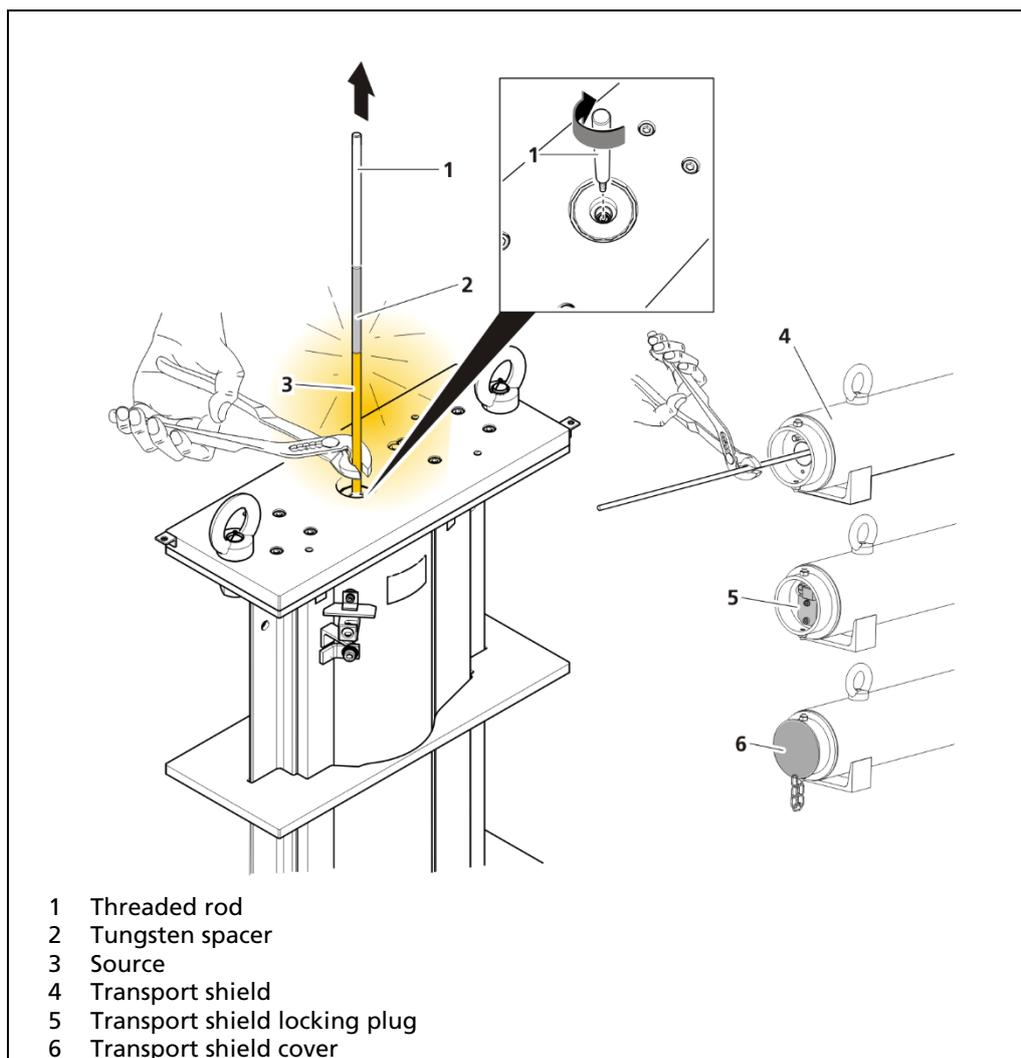
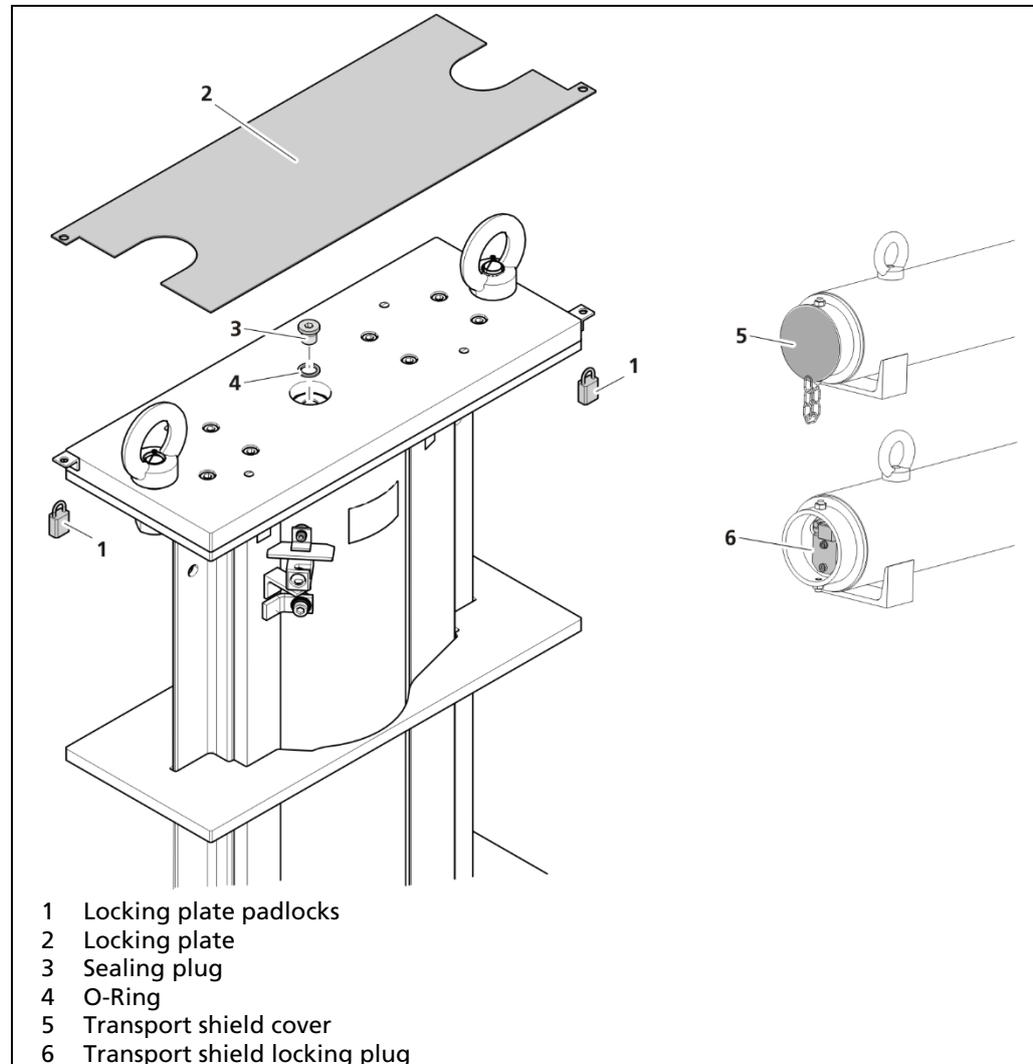

Fig. 13 Remove source out of shield
Fig. 14 Prepare the installation
1. Prepare the transport shield (Fig. 13, item 4) for the source, remove the cover (Fig. 13, item 6) and the locking plug (Fig. 13, item 5).
5. Screw the threaded rod (Fig. 13, item 1) into the thread of the tungsten spacer (Fig. 13, item 2).
6. Pull the source out of the shield with the threaded rod. Hold the source (Fig. 13, item 3) with pliers.
7. Insert the source as quickly as possible into the provided and opened transport shield (Fig. 13, item 4) and close the locking plug (Fig. 13, item 5) and the cover (Fig. 13, item 6).
1. If necessary, remove the locking plate padlocks (Fig. 14, item 1) the locking plate (Fig. 14, item 2).
2. Unscrew the sealing plug (Fig. 14, item 3).
3. Remove the O-ring (Fig. 14, item 4).
4. Prepare the transport shield (Fig. 13, item.4) with the source to be installed and remove the cover of the transport shield (Fig. 14, item 6).
5. Remove the locking plug (Fig. 14, item 7) to open the transport shield.
9. Place the locking plate (Fig. 14, Pos.2) and secure locking plate with locking plate padlocks (Fig. 14, item 1).